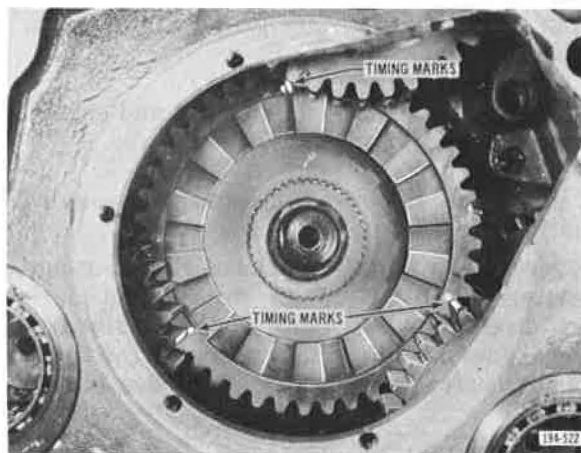

Figure 5-622. Aligning O-Marks on Lo-Range Gear with Countershaft Gears
11. Disengage reverse gear from the three idler gears. Align the three alignment O-marks on face of mainshaft Lo-range gear with the countershaft Direct gears which were previously marked with yellow paint. See Figure 5-622. When marks are in alignment, engage rear mainshaft Lo-range gear. Be sure O-marks on Lo-range gear align with O-marks on countershaft Lo-range gears before continuing to assemble rear case.